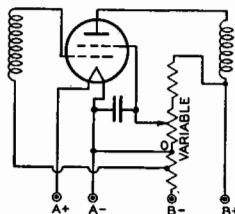

Fig. 35
**Screen voltage variation** for the r-f amplifier stages is sometimes used for volume control of the receiver. Reduced screen voltage lowers the mutual conductance of the tube and results in decreased gain per stage. The voltage variation is obtained by means of a potentiometer shunted across the screen voltage supply. See Fig. 35.